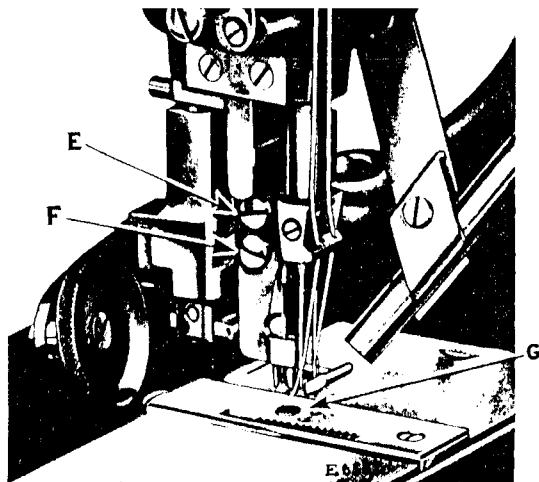
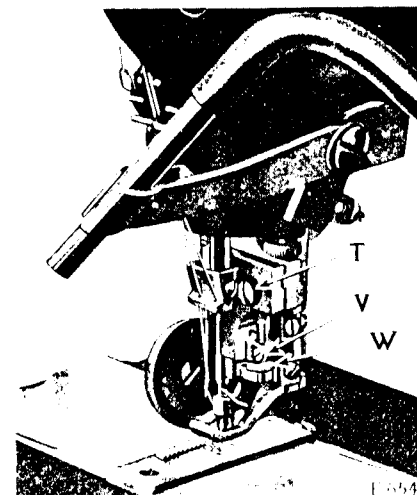

Fig. 10. Showing Two Screws Which Hold Punch Holder in Position on Punch Bar
Fig. 13. Showing Adjustment for Regulating Depth of Perforation
Loosen the two screws (E and F, Fig. 10) and remove the punch holder from the machine. Drive the old punches from
In case the punch is not perforating the leather centrally between the lines of stitching, loosen the screw (T, Fig. 13) and move the punch holder bracket to the right or left as may be required to bring the punch centrally between the two needles, then securely tighten the screw (T).
To increase the depth of perforation or to perforate more than one thickness of leather, loosen the two screws (E and F, Fig. 10) which hold the punch holder in position on the punch bar. Then loosen the pinch screw (X, Fig. 13) and turn the adjusting thumb screw (W, Fig. 13) downwardly, thus lowering the punch holder on the punch bar. To decrease the depth of perforation or to perforate only one thickness of leather, turn the adjusting screw (W) upwardly and raise the punch holder. When the punch holder is set at the height necessary for making the desired depth of perforation, securely tighten the three screws (E, F and X).
When punching on the brass punch block (G, Fig. 10), the pressure on the punch must be only sufficient to show a slight impression of the punch on the cutting surface of the block. If the pressure on the punch is too heavy, it will dull the punch and cause excessive wear on the block and the punch mechanism. If the punch does not cut the material cleanly, do not try to remedy the trouble by increasing the pressure on the punch, but remove the punch holder from the machine and sharpen the punch as instructed below.
The outlet or nozzle of blower pipe should be set so that a full flow of air will discharge directly on the point where the punches come in contact with the work and at the same time be positioned as close as possible to this point without coming in contact with needle holder as shown in Fig. 10.
The nozzle can be raised out of the way as shown in Fig. 13 when threading the needles or adjusting the punch and returned instantly to operative position before beginning to sew.
The punch block (G, Fig. 10) may become so worn as to interfere with the clean perforating of the material, and when this occurs a new punch block should be placed in the machine.